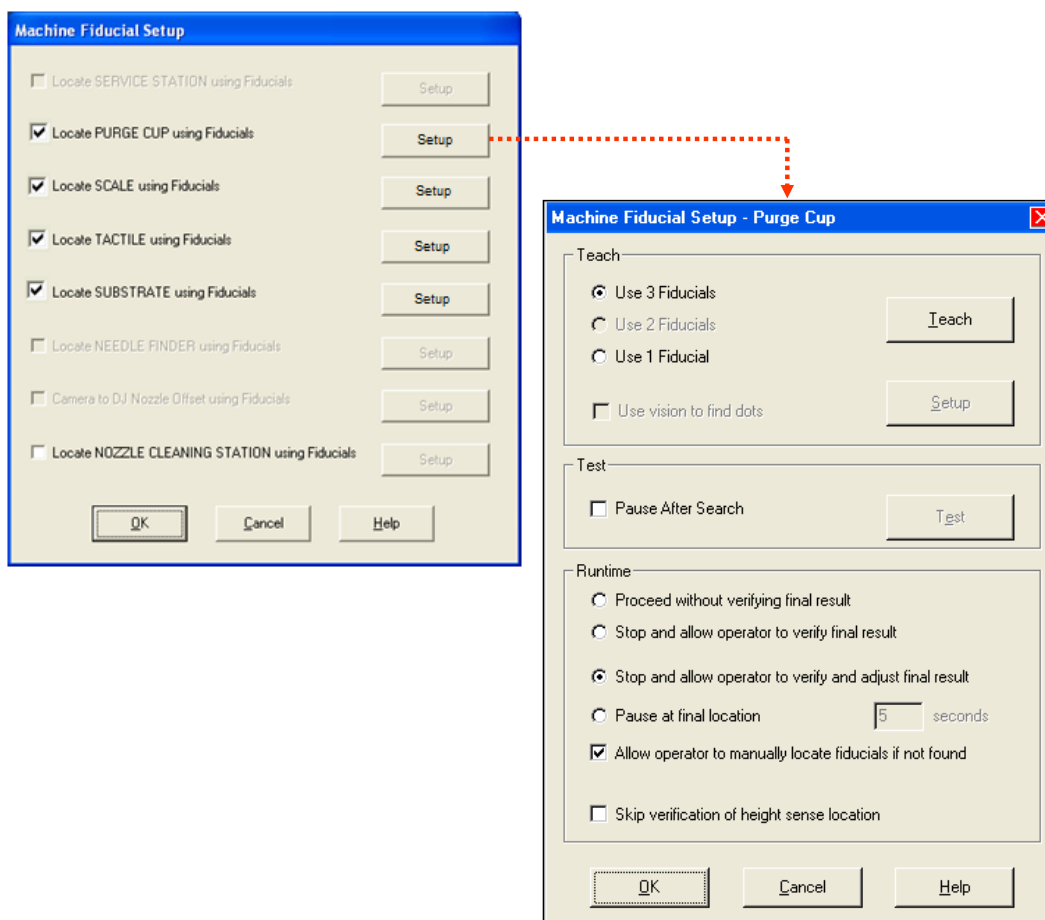

Figure 4-4 Fiducial Assisted Setup Windows
- ▶ The Machine Fiducial Setup Screen opens (Figure 4-4).
- The setup window for the selected device opens (Figure 4-4).